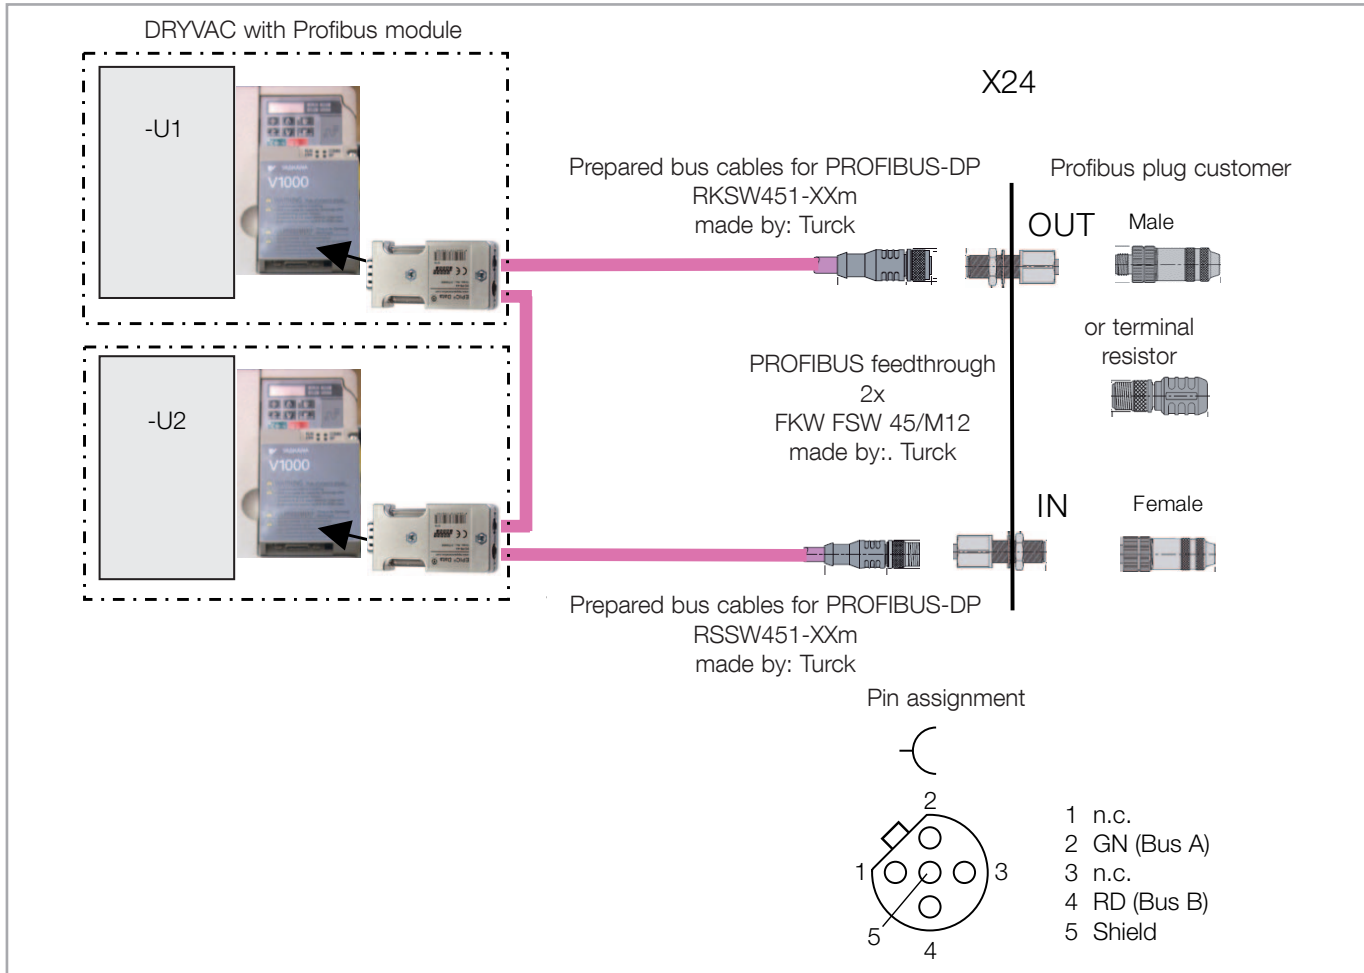

Fig. 3.20 Profibus connection
- Profibus interface, see fig. 3.20